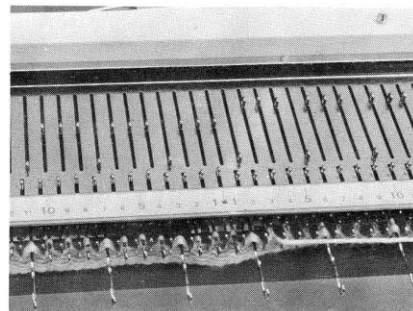

Fig.130
- b) Align in position (B) all the needles which have already knit the stitches of this row, leaving in position (E) those needles brought forward into this position before starting of the row. Among the needles which have not yet knit this row, leave in position (E) each needle pushed forward to this position before commencing the row, and the other needles should be aligned in position (D). (Fig.130)
- c) Push forward to "PASS" the leading guide cam lever. Make sure that the leading return cam lever is set to No.1 and the wool run from last inside needle in position (B) over needle stems in position (E) to the carriage feeder. Move the carriage across needles.